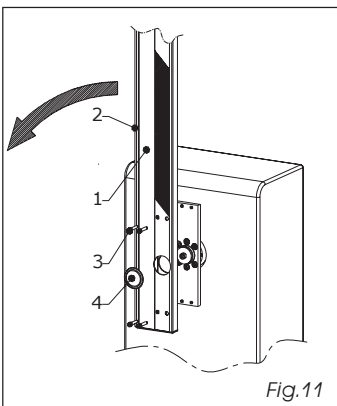

Fig.11
SPIN 3 - 4 (Fig.11)
- fit the beam, ref.1 fig.11.
N.B.: The rubber profile, ref.2 fig.11 must face the closing direction.
- screw the four supplied screws, ref. 3 fig.11.
- insert the hole plug, ref.4 fig.11.